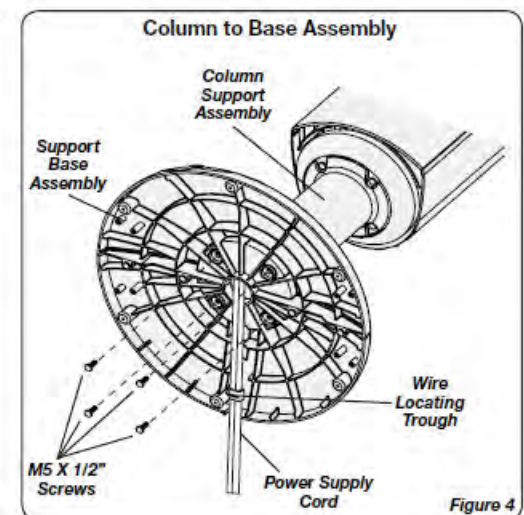

Figure 4
6. Align the **Support Base Assembly** with the **Column Support Assembly**, noting that the cord channel on the bottom of the support base should be towards the back of the Fan. Assemble the **Support Base Assembly** to the **Column Support Assembly** with (4) **1/2" Long M5 Screws**. Gently pull any excess slack of the **Power Supply Cord** and place it in the **Wire Locating Trough**. (**Figure 4**)